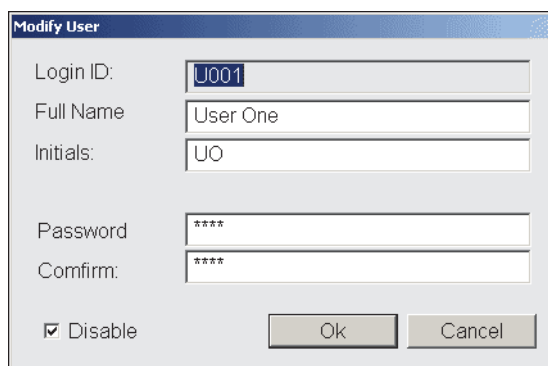

Figure 3.10. Modify User dialog box
9. Modify or view a user by selecting the user in the OIC P&T 4660 – Security dialog box and pressing **Edit**. The Modify User dialog box appears (Figure 3.10).